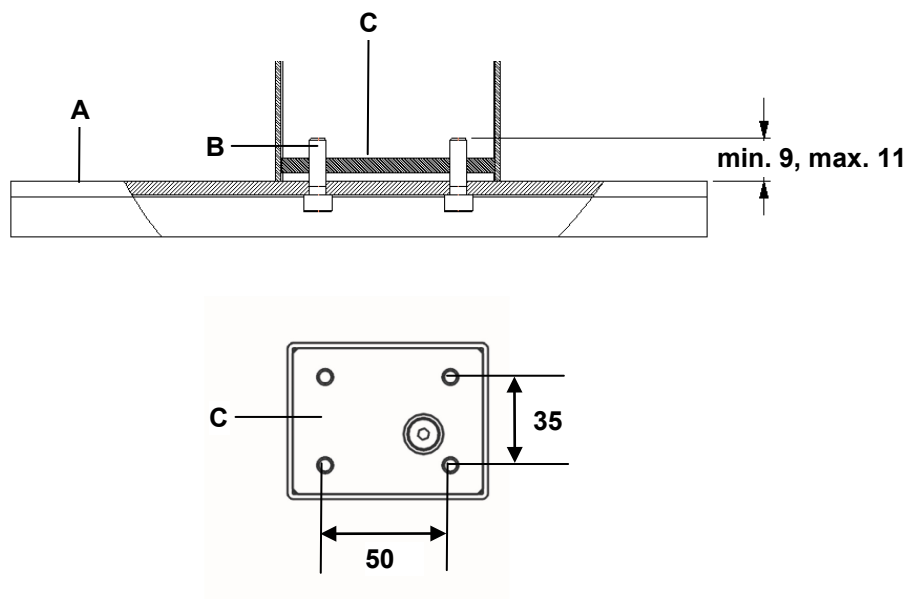
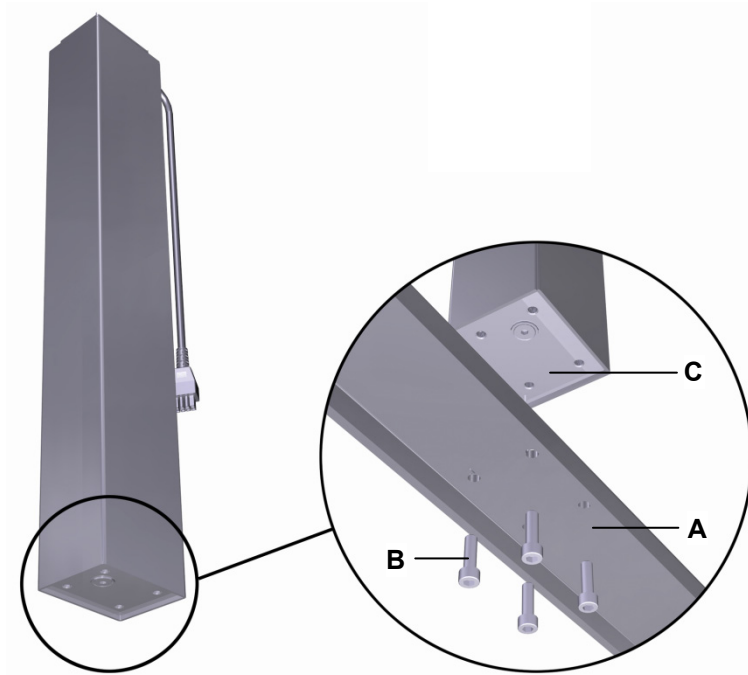

Figure17 Mounting the table base (dimensions in mm)
Figure 18 Mounting the table base:
- ▶ Use M6 bolts (with strength grade 8.8), as shown in Figure17. The tightening torque is 10 Nm.
- 1 Use four screws to attach the table base to the foot end of the ID21 lifting column, as shown in Figure 18 (tightening torque is 10 Nm). The mounting dimensions are shown in Figure 17.